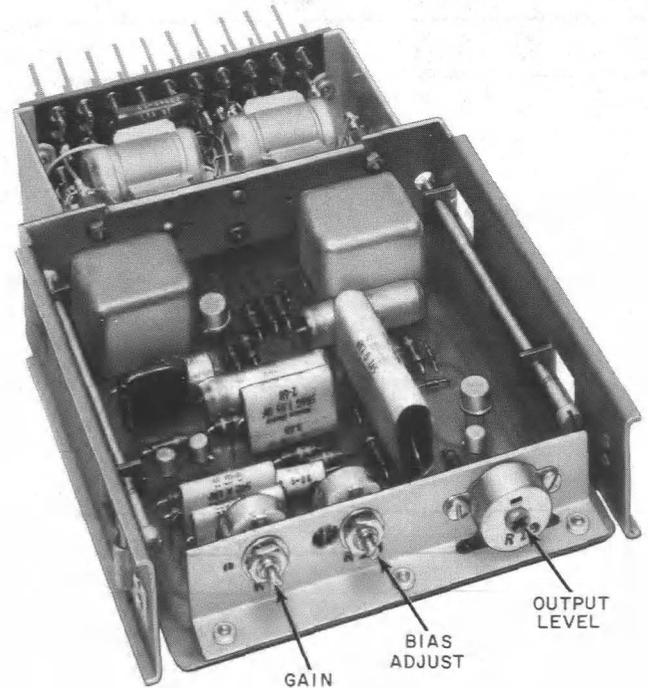

Fig. 1—KS-20449 Amplifier—Front View with Cover Removed
- 2.01** The KS-20449 L1 amplifier (Fig. 1 and 2) may be installed on a 23-inch relay rack using a 189A mounting plate drilled for mounting the KS-20449 L1 amplifier, or may be mounted vertically on rails similar to the mounting used for the KS-16754 amplifier. The modified 189A mounting plate will accommodate three amplifiers.
- 3.02** Using a KS-6854 screwdriver, or equivalent, turn gain control (Fig. 1) completely counterclockwise to obtain minimum gain.